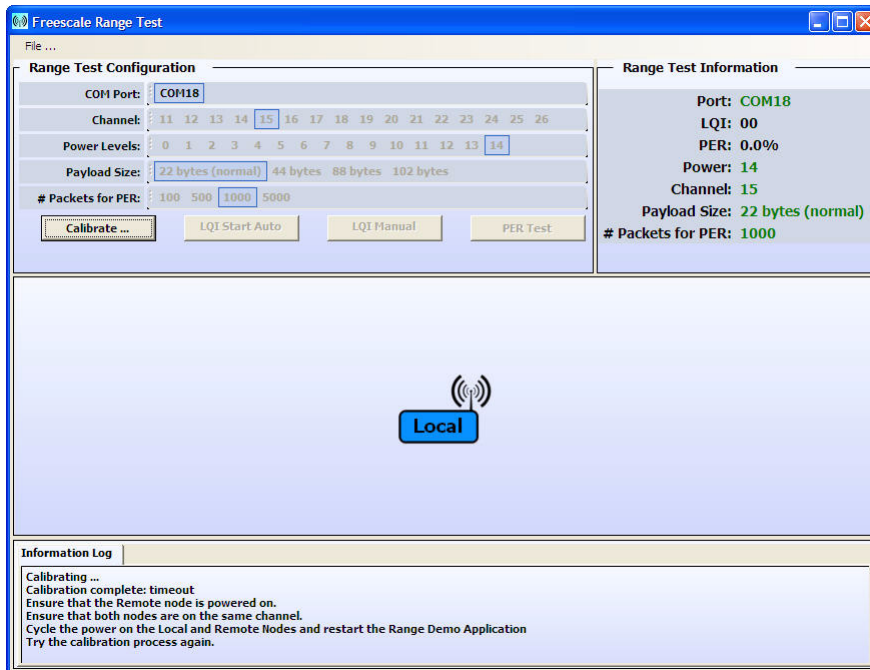

Figure 7-7. Calibration Time Out
3. If a calibration time out occurs, follow the instructions as they appear in the information log tab as shown in Figure 7-7.